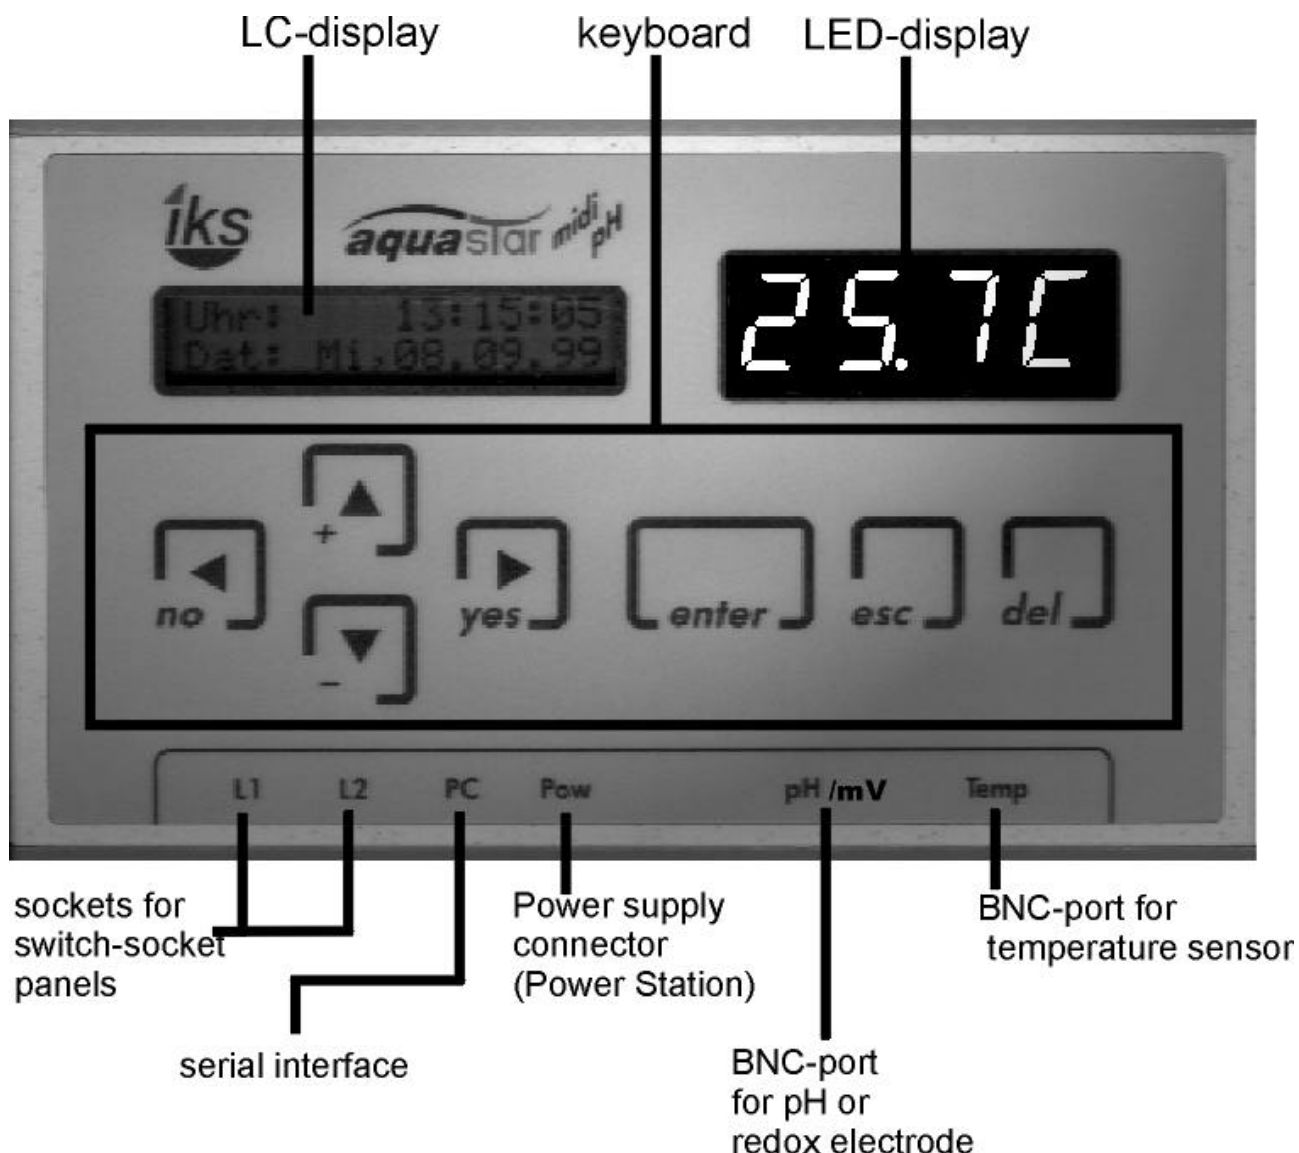

Fig. 1
With the help of a picture (Fig.1), **Section 3** introduces the *iks aquastar midi* and explains what's included in the package. Once you've read this, you will know where to connect the sensor modules, the switch-socket panel, the power supply and the PC.
3.1 Operating elements (Fig. 1)
As you can see in the picture (Fig. 1), the *iks aquastar midi* has two BNC ports for sensors. Now connect the sensors to the appropriately labelled port, depending on the model you have. **Please ensure that the sensors are not inadvertently connected to the wrong port as otherwise damage to both the sensor and the *iks aquastar midi* may result!**
As shown in Fig. 1, you can connect up to two switch-socket panels to the *iks aquastar midi* on L1 to L2 (thereby giving you a total of 8 sockets that can be activated individually). These sockets are labelled L1 to L2. The sockets on L1 have been given the numbers 1 to 4, on L2 the numbers 5 to 8. If you only have one socket panel in your possession then we recommend that you connect it to the socket L1. Of course, you can connect it to L2, if you wish but then please note that the numbers assigned to the sockets change accordingly (see above).